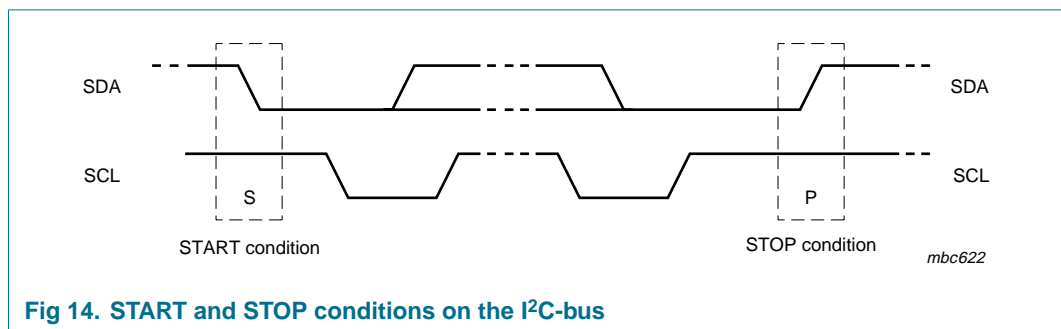

Fig 14. START and STOP conditions on the I²C-bus
Both data and clock line will remain HIGH when the bus is not busy. A HIGH-to-LOW transition of the data line, while the clock is HIGH, is defined as a start condition (S); see Figure 14. A LOW-to-HIGH transition of the data line while the clock is HIGH is defined as a stop condition (P).